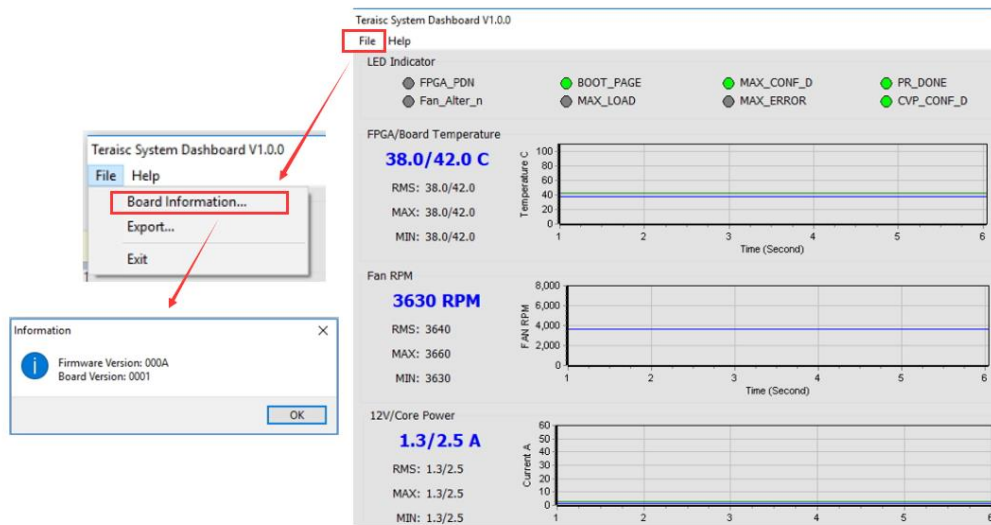

Figure 8-24 Board Information
- **Board Information:** There is a File page on the upper left of the Dashboard GUI program window, click the Board Information to get the current software version and the TR10a-LPQ board version, as shown in Figure 8-24.